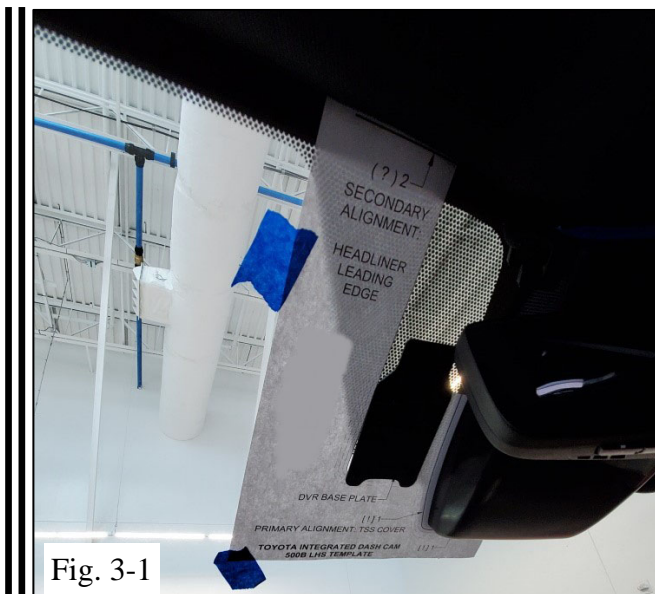

Fig. 3-1
- (c) Slip the template under the left edge of the TSS cover. Align to the indicated line, affix the template to the windshield, and affix with tape (Fig. 3-1).